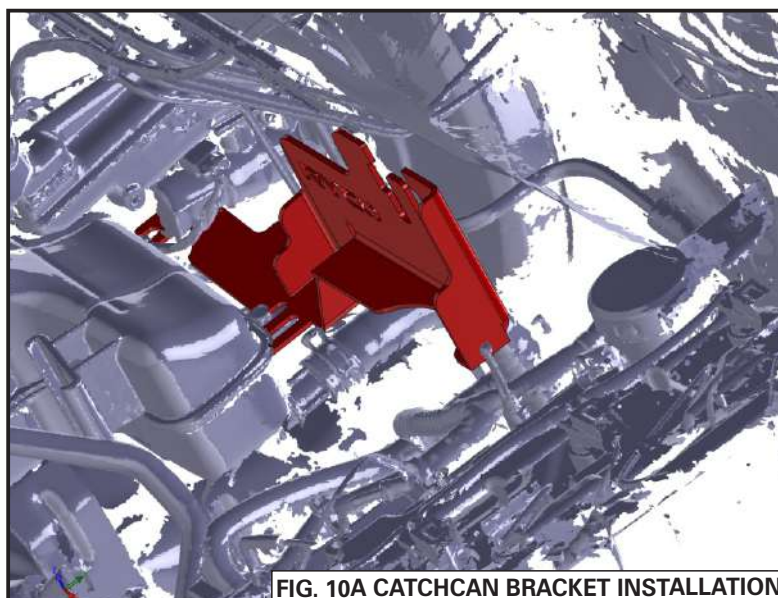
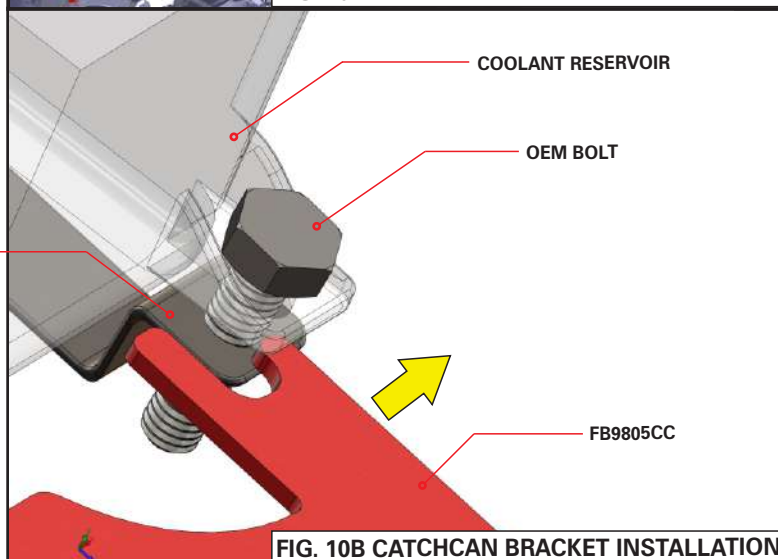

FIG. 10A CATCHCAN BRACKET INSTALLATION
FIG. 10B CATCHCAN BRACKET INSTALLATION
2. Locate FB9805CC bracket as shown in FIG. 10A. Slide FB9805CC mounting tabs under the coolant overflow reservoir mounts as shown in FIG 10B and 10C as far as they'll go.